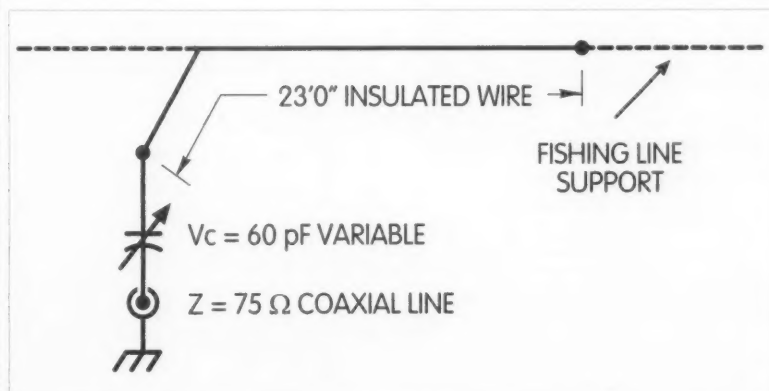

Fig. 1. 20-meter antenna.
The simple design is shown in **Fig. 1**. It consists of 23 feet of wire, supported by nylon fishing line, which also acts as end insulation. A series variable capacitor (VC) is used to tune out the reactance. The variable used was a 60 pF, though 100 pF could be used. This variable should be a good-quality small transmitting type, though a wide-spaced, well-insulated, receiving type could be used up to about 20 watts. As it is at a high voltage point, it should be enclosed in a small plastic
Fig. 1, the antenna length of 23 feet represents $\lambda/3$ at 14.030 kHz. This frequency was selected from experience, on the basis that though the electrical length might change somewhat (if the antenna was bent somewhat or erected horizontally or sloping), it could still be used in the CW spectrum, 14,000–14,100 kHz or more. Past experience shows that this has held good, in various installations, in various places.
Fig. 1 is an in-room layout, with the antenna running diagonally across the